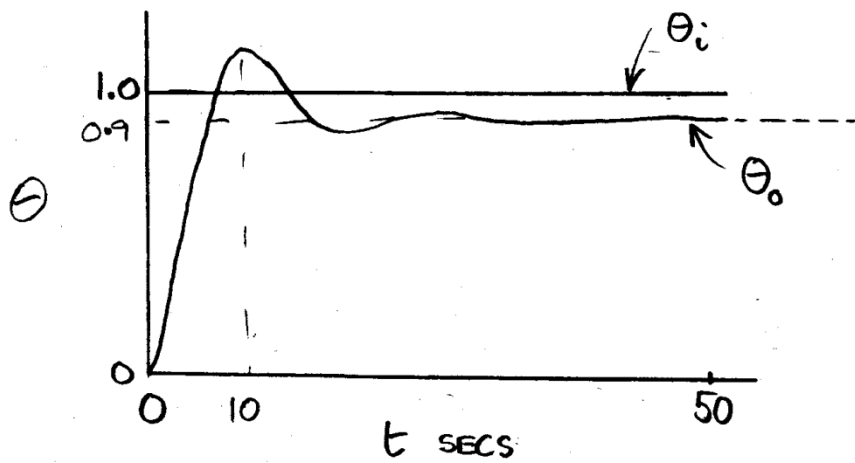

Fig. 4 Response of a controlled system to a unit step change in the set value.
9. The time response of a second order controlled system to a unit step change in the set value, θ_i , is shown in Figure 4. Determine the transfer function for the system.